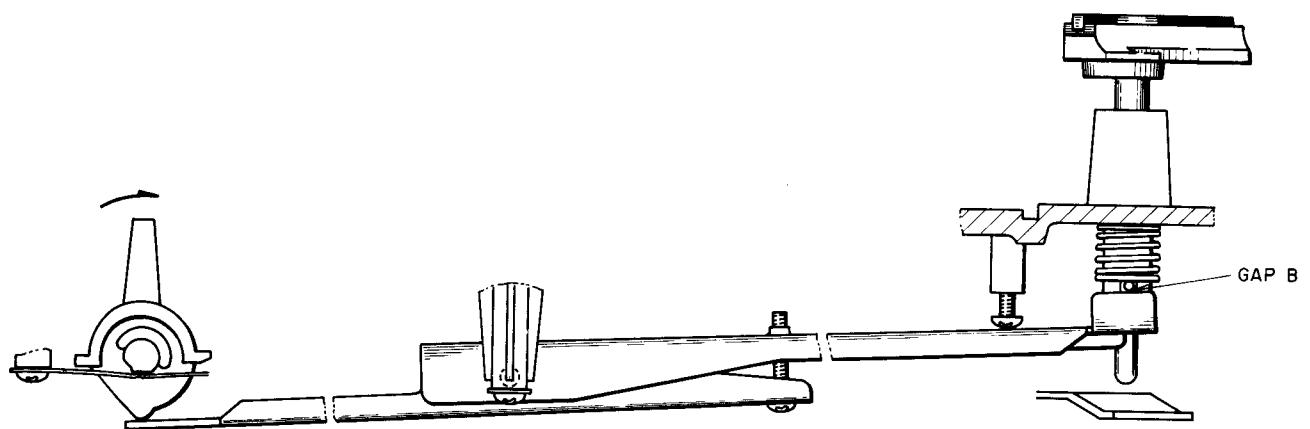

Fig. 10
- tion control at \blacktriangleleft , adjust screw (b) at exactly the point where the gap (B) between the shaft pin and the elevation lever (A) disappears. (Refer to Fig. 10.)